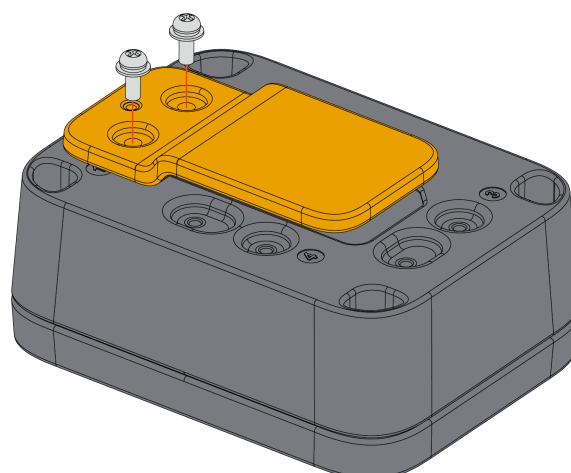

Figure 20: Fixing the belt clip mount on the enclosure
2. Fix the belt clip mount marked with the letter **E** on the WisBlock Unify Enclosure using two (2) pieces of M3*8 mm Head screw with washer. Place it on fixed positions number **1** or **3** of the enclosure as shown in **Figure 20**.